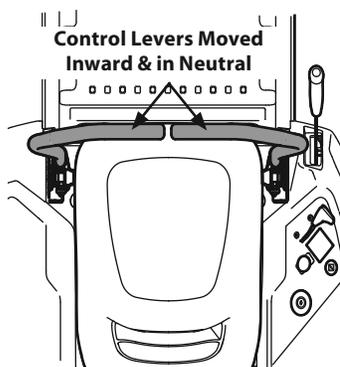

Figure 19
2. Move the RH and LH lapbar drive control levers inward in the neutral position which also disengages the parking brake. Refer to Figure 19.